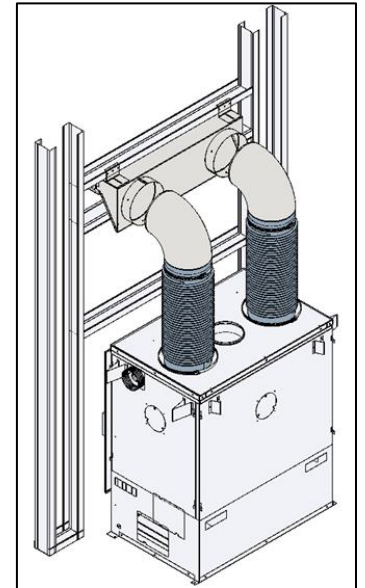

Figure 3-32: CAC8 Duct Installation
7. Insert the other ends of the ducts on the 8 inch duct adapters on top of the fireplace (Figure 3-32).